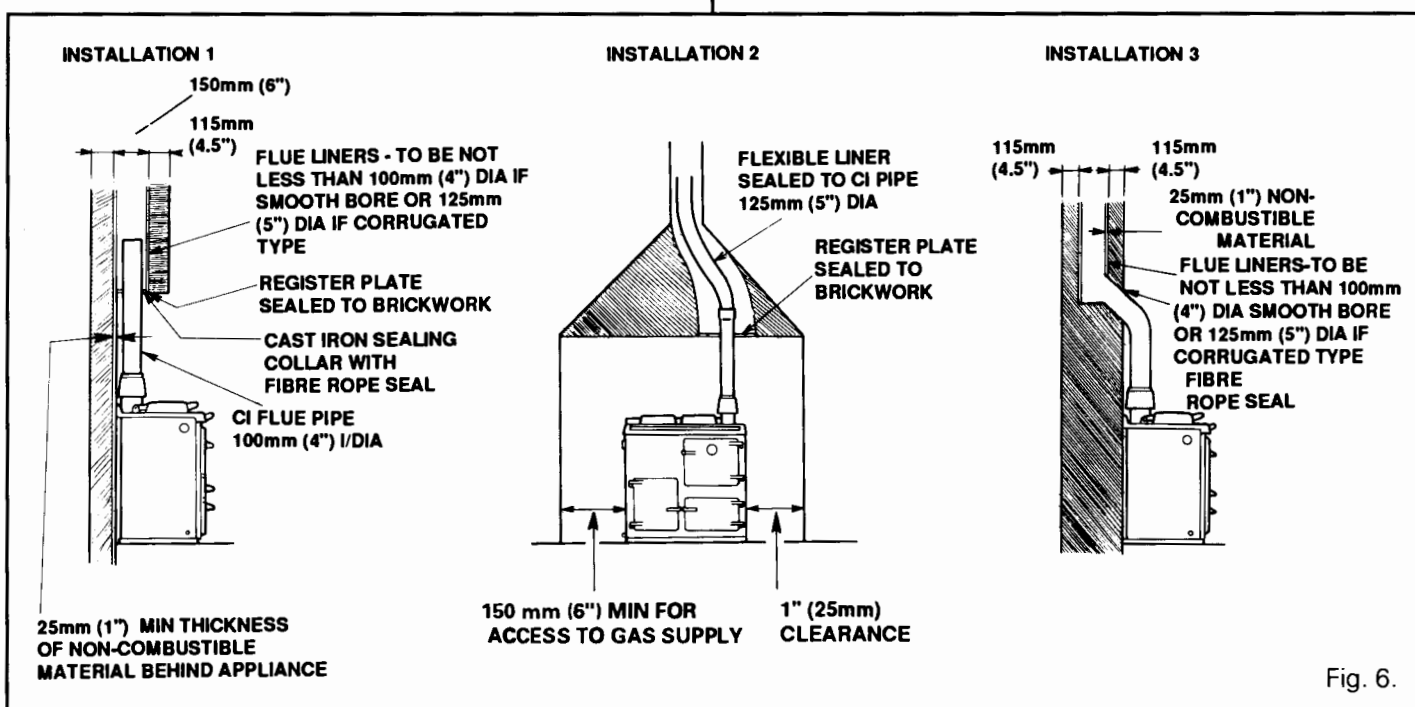

Fig. 6.
3. Fit a 600mm (24in) minimum vertical height of flue pipe into the draught diverter flue socket, sealing joint with fire cement. See Fig. 6.